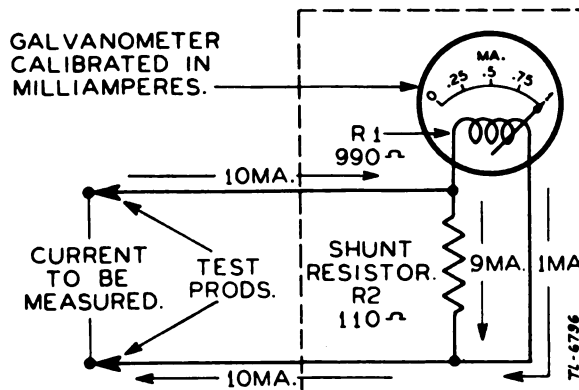

Figure 1. The galvanometer as a milliammeter, showing shunt.
(3) For example, suppose a meter having a 990-ohm coil reads full scale with a current flowing through it of 1 milliampere and it is desired to extend the full scale reading to 10 milliamperes. The parallel or shunt resistor must be of such value that 9 milliamperes will flow through it, leaving 1 milliampere to flow through the meter for full-scale deflection. Using Ohm's law, this resistance is figured to be 110 ohms or $\frac{1}{9}$ of 990 ohms. This example is shown in figure 1 where R1 is the meter resistance and R2 is the shunting resistor, or the low-resistance path in parallel with the meter. All parts of the meter circuit are shown inside the broken line. Since $E = IR$:
with the arrangement shown in figure 1, the scale, although calibrated from zero to 1 milliampere, may be used to measure any current up to 10 milliamperes. The meter reading is multiplied by 10 to obtain the total current in the circuit. To extend the range of the meter to read zero to 100 milliamperes the value of R2 must be changed to 10 ohms, or $\frac{1}{99}$ of the meter coil resistance. A current of 1 milliampere must still flow through the galvanometer for full-scale deflection, leaving 99 milliamperes to flow through R2. The meter reading is then multiplied by 100 for the actual current being measured.